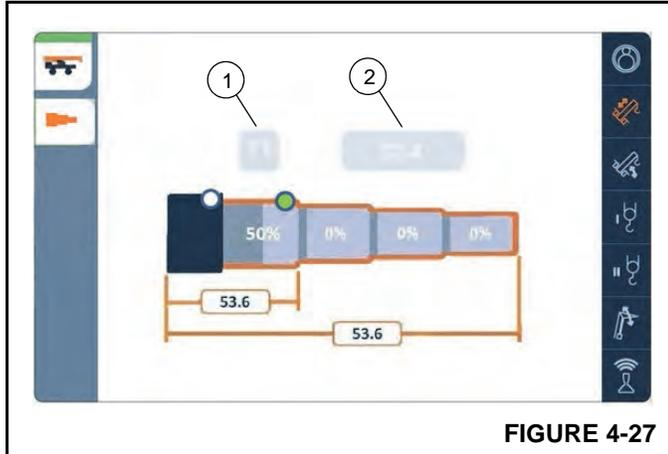

FIGURE 4-27
The T1 (1, Figure 4-27) and T2-4 (2) buttons on the function screen are grayed out and unaccessible when the telescope system is in-sequence and the crane is set to an automatic telescope mode (A, X, or B). If the telescope system becomes out-of-sequence, the operator can select Mode M to recover the boom. When Mode M is selected, the T1 and T2-4 buttons become accessible.